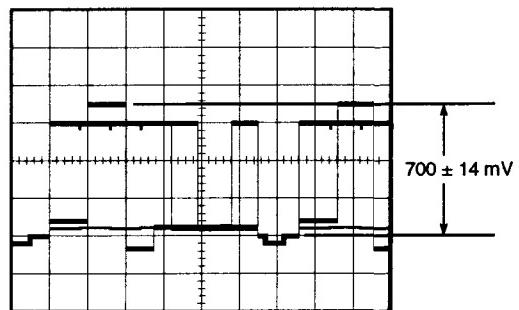

Fig. 5-1-18
- Adjust VR21 so that the white portion of the Video signal level becomes 700 ± 14 mV as shown in Fig. 5-1-18.